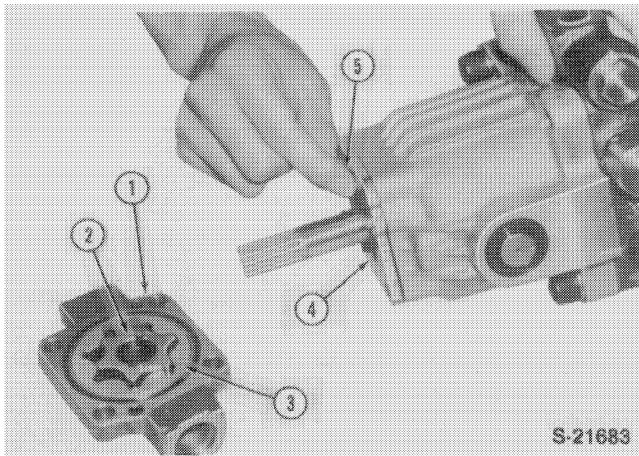

FIGURE 8-27
10. Remove the four pump mounting bolts and the pump housing, inner and outer rotors, drive pin and plate from the pump drive shaft, Figures 8-27 and 8-28.